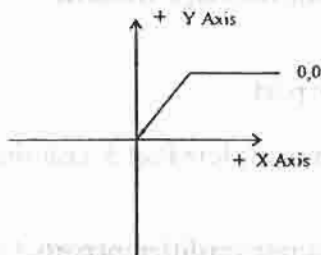

Figure 1
1. **MACHINE ZERO (HOME):** This is a reference point on the machine commonly used to establish a part zero or part Datum. On the cartesian coordinate system it is the (0,0) point of the machine. (See Figure 1)